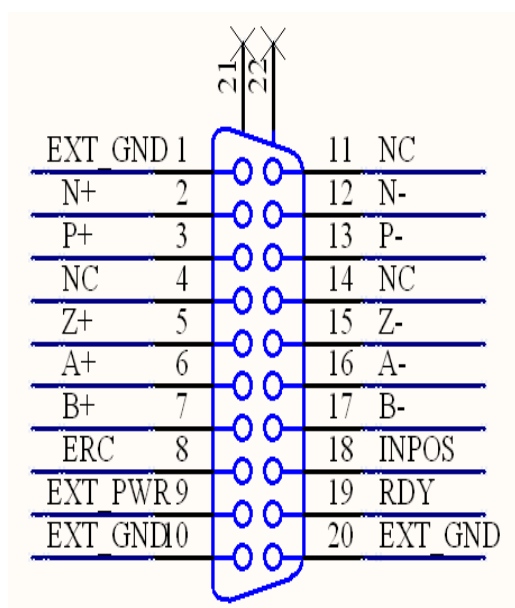

Fig B2-5 Pin definition for CN-XA, CN-YA
■ CN-XA & CN-YA (Fig B2-5 connector for each AXIS)
The connectors CN-XA and CN-YA are 20-pin connectors that enable you to connect to the CNA connector of Mitsubishi motor drivers. Fig.B2-5 shows the pin assignment for the 20-pin connector on the DN-8237-MB, and the Table B2-5 shows its I/O connector signal description.